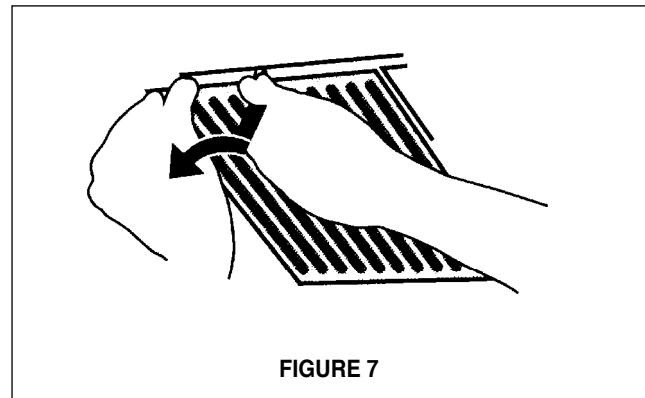

FIGURE 7
- Install the grease filters using two hands by first pulling and turning the knob to the left so that the locking lever does not protrude from the filter (as in FIGURE 7). Insert the opposite end of the filter into the retaining channel. Insert the knob end next, then turn knob to the right to lock the filter into place.